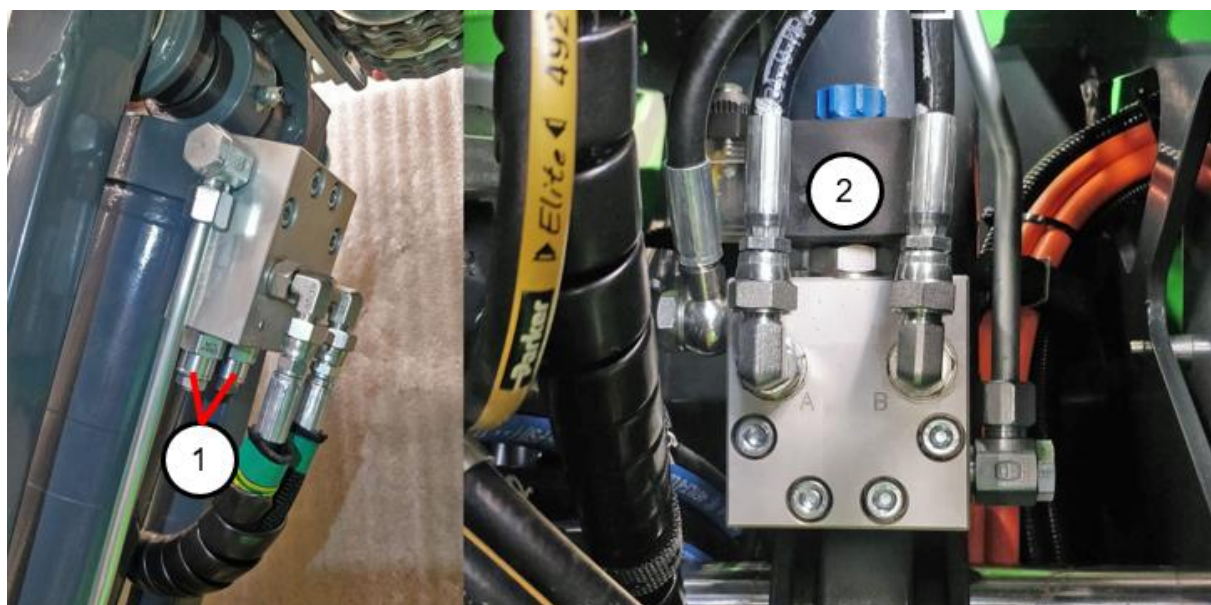

Figure 24 Cylinder hydraulic manifolds. JIB cylinder (left) and lift cylinder (right).
All boom cylinders are equipped with two load control valves (Figure 24 (1)) which prevent boom movements in case of, for example, a hydraulic hose failure.